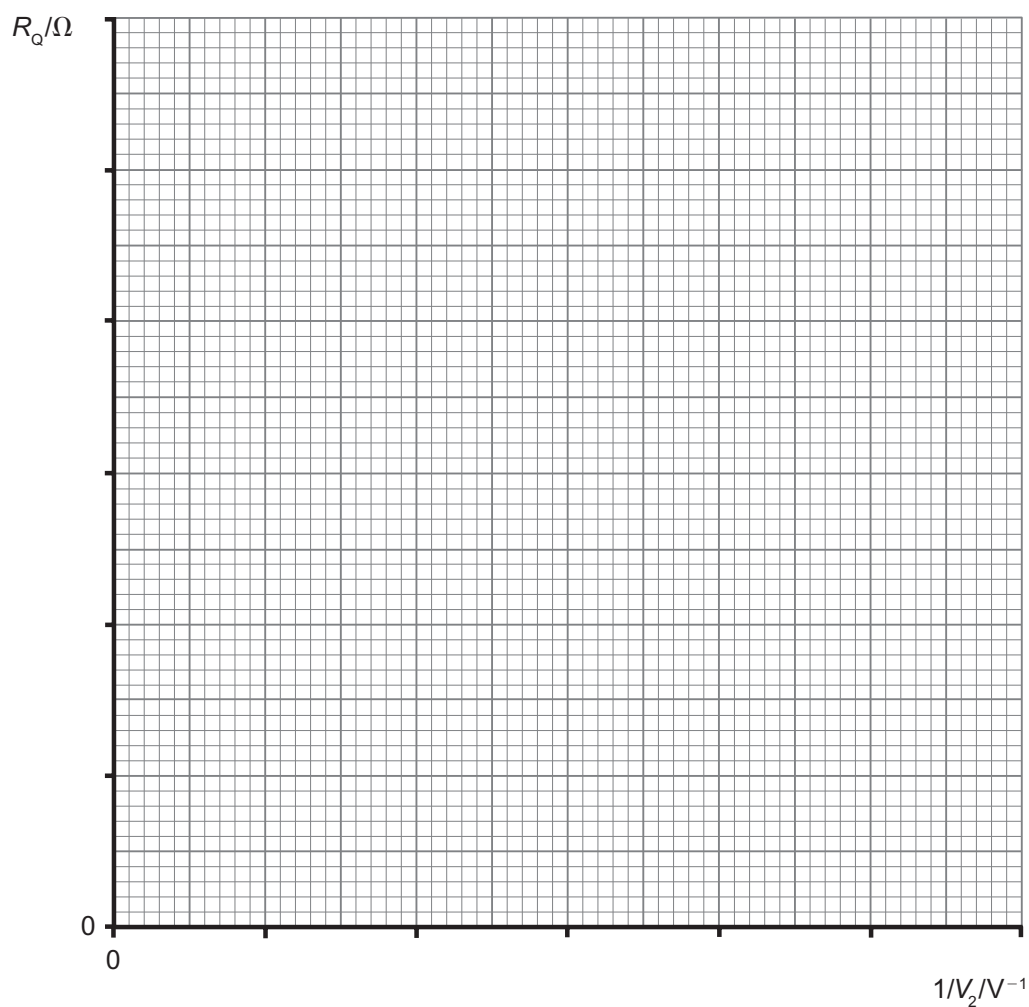

Fig. 2.3
- (ii) Plot the graph R_Q against $1/V_2$ on the grid of **Fig. 2.3**. Choose suitable scales, plot the five points and draw the best fit line. [4]
(ii) Why can the value of B not be obtained **directly** from Fig. 2.3?